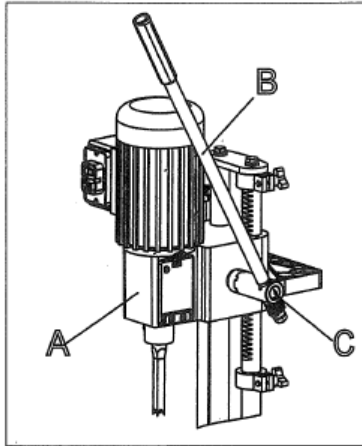

Fig. 9
See Fig. 9. The head (A) is raised and lowered by means of the lever (B). For maximum leverage during the mortising operation, the lever (B) can be repositioned by pulling the hub (C) out of the lever assembly and repositioning the hub on the pinion shaft.